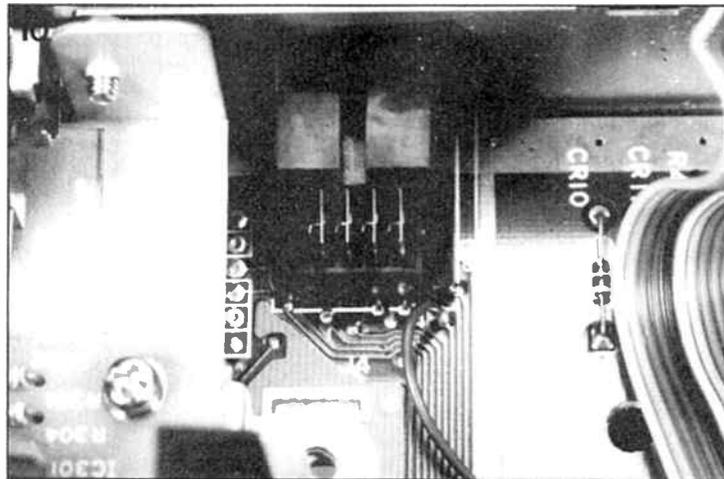

Fig. 10. The audio signal is taken from right behind the SCART socket on the Atari 1040-ST.
- Behind the SCART socket for the Atari monitor are a number of soldering pins (see Fig. 10). Connect the pin beside the figure 4 to pin 15 of the D socket.